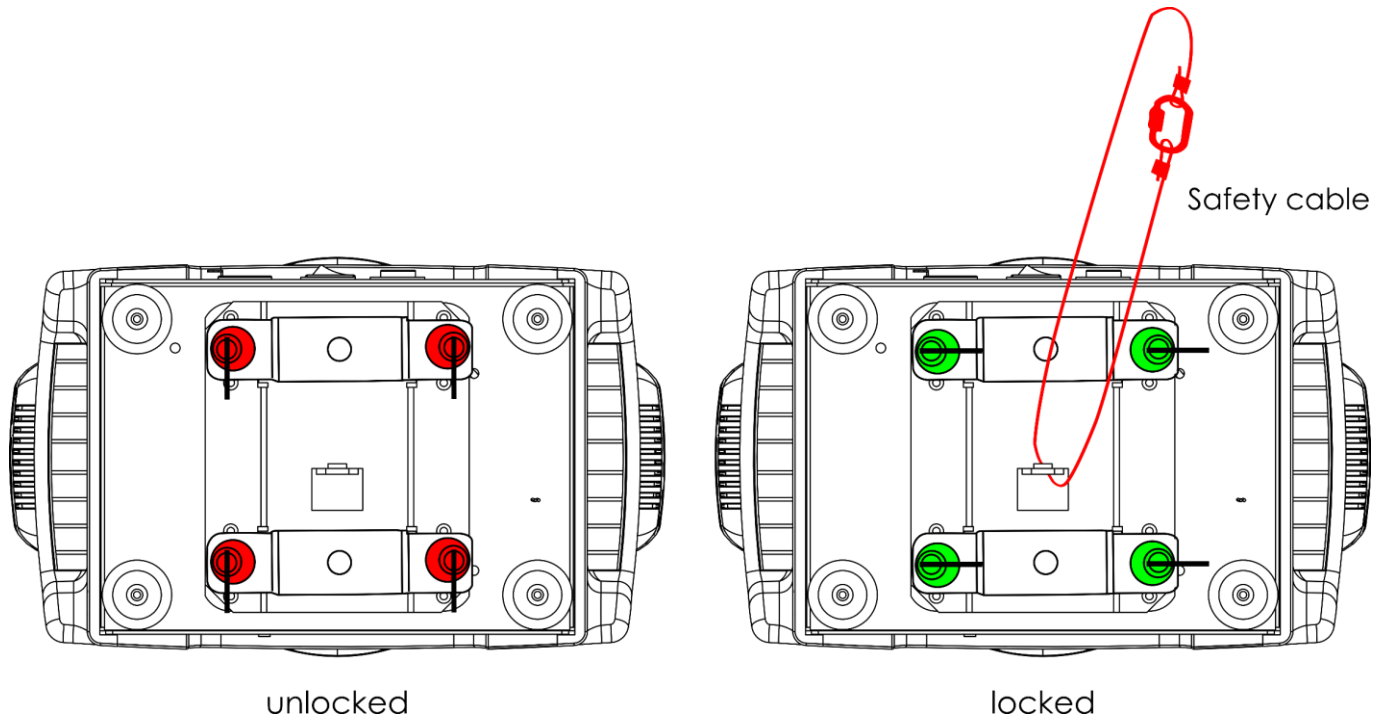

Fig. 09
- 01) Fasten the quick lock bracket, supplied with the device, on the **mounting openings for quick lock bracket (12)**, as shown in Fig. 09
- 03) Secure the device with a secondary suspension, for example a safety cable. Make sure that the secondary suspension can hold 10 times the weight of the device. If possible, the secondary suspension should be attached to a supporting structure independent of the primary suspension. Put the safety cable through the safety eye as shown in Fig. 09.